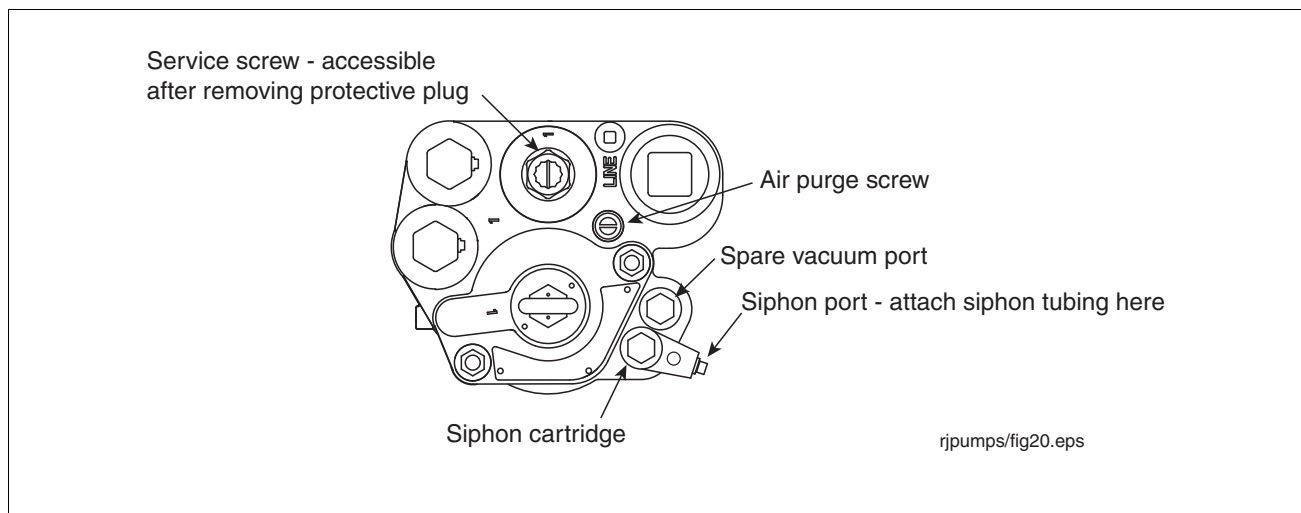

Figure 26. Siphon Ports
2. Remove and save the protective plug over the service screw and turn the screw clockwise (see Figure 26). As the screw approaches its bottom position, you will hear the system depressurizing. Continue turning the screw until it can go no further. When the screw is all the way down, back off the screw 4 turns to lift the check valve and let the fuel drain out of the manifold's hydraulic cavities.
3. Remove one of the two siphon port plugs from the manifold (see Figure 26).
9. Turn the air purge screw 2 - 3 turns counterclockwise (see Figure 26).
2. Remove and save the protective plug over the service screw and turn the screw clockwise (see Figure 26 on page 27). As the screw approaches its bottom position, you will hear the system depressurizing. Continue turning the screw until it can go no further. When the screw is all the way down, back off the screw 4 turns to lift the check valve and let the fuel drain out of the manifold's hydraulic cavities. Continue to turn the screw counterclockwise until you hear the check valve drop down into position.
8. Open the air purge screw 2 - 3 turns counterclockwise (see Figure 26).